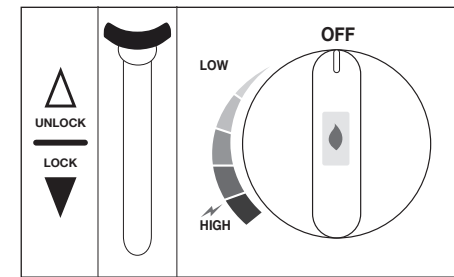

Fig. 3
3. Turn the Ignition Knob to 'OFF' and set the Cartridge Lock lever to 'UNLOCK'. (Fig. 3)